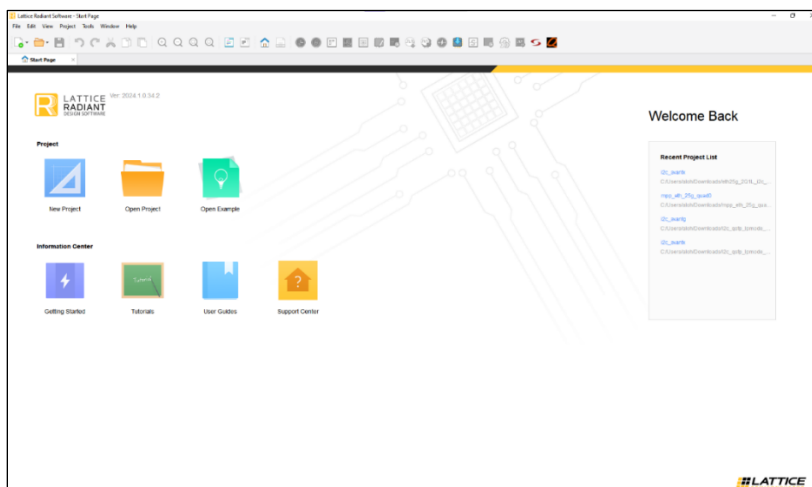

Figure 5.3. Lattice Radiant Software
1. Launch the Lattice Radiant software, as shown in Figure 5.3. Note that the project is compiled using Lattice Radiant software.